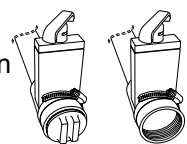

Figure 13.2i
6. Unscrew drain valve cap, Figure 13.2i. Place the cap aside.